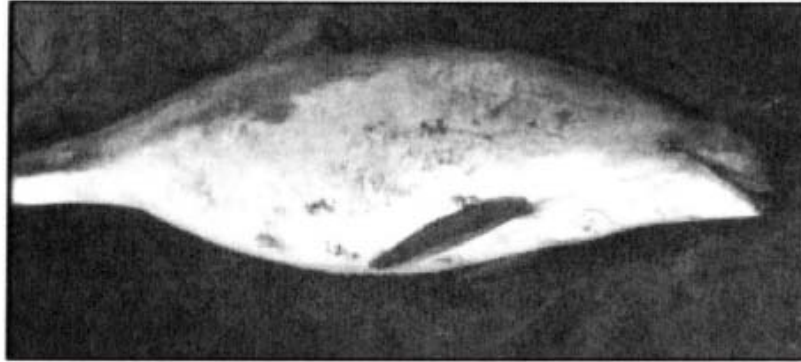

Figure 1. Illustration of Animal Condition Code 11 (NOTE: Illustrations is of a pregnant female)
- 11 Dead, fresh. See Figure 1.